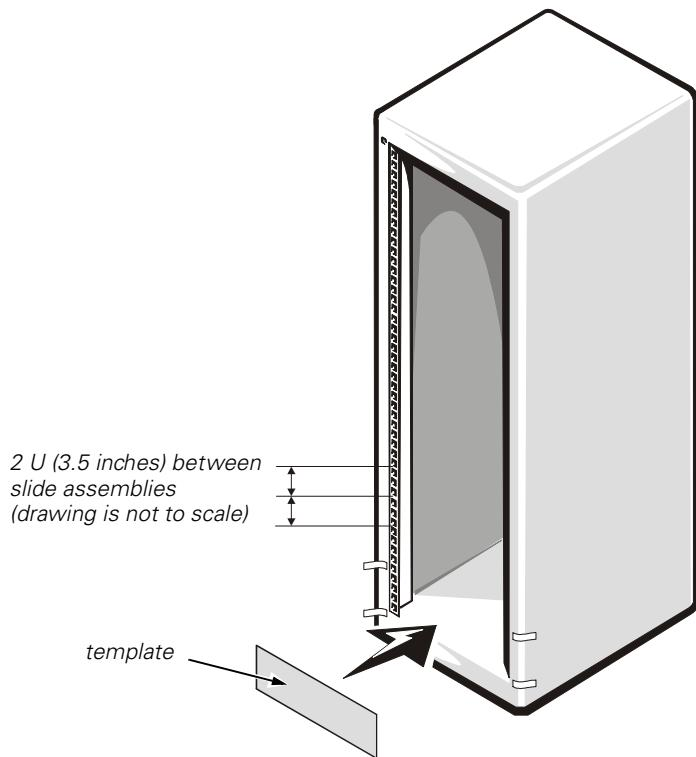

Figure 1-7. Using Template to Mark Vertical Rails
| Figure 1-7. Using Template to Mark Vertical Rails..... | 1-9 |
2. Mark the rack's front vertical rails with a felt-tipped marker or place self-adhesive masking tape where the system's upper and lower edges will be located (see Figure 1-7).